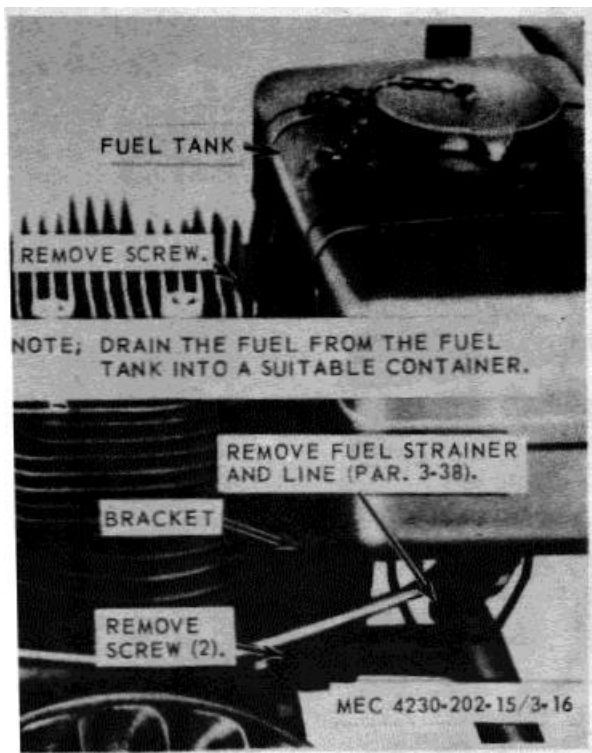

Figure 3-16. Fuel tank, straps, and bracket, removal and installation
- (2) Remove the fuel tank cap and strainer (para.3-37).
- (3) Refer to figure 3-16 and remove the fuel tank, straps, and bracket.
- (1) Refer to figure 3-16 and install the fuel tank, straps, and bracket.
- (2) Install the fuel tank cap and strainer (para.3-37).
- (3) Install the fuel strainer and line (para.3-38).